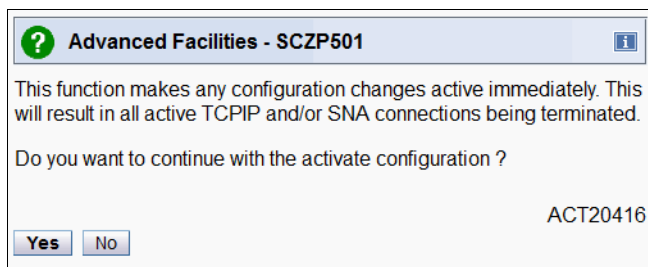

Figure 14-16 OSA/SF on HMC: Confirm activation
12. The Confirmation panel (Figure 14-16) opens. Click **Yes** to continue the operation.